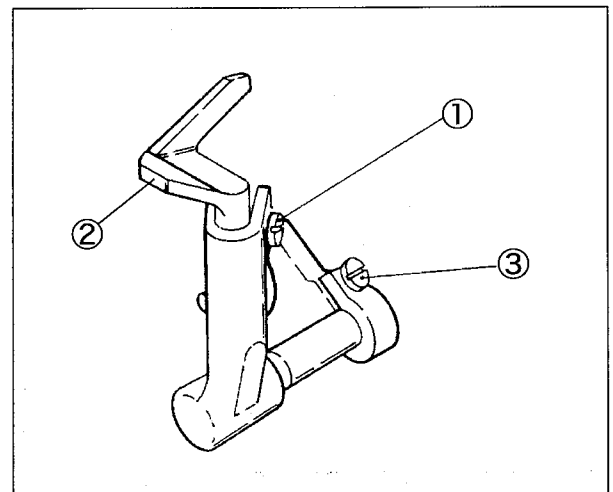

Fig. 6-26
- (3) Tighten the screw ① securely. (Fig. 6-26)
- (4) Loosen the screws ① and ③. Adjust the clearance between the needle guard(front) ② and the left or right needle to 0 - 0.3 mm respectively. (Fig. 6-26, 6-27)
- (5) Tighten the screws ① and ③ securely. (Fig. 6-26)